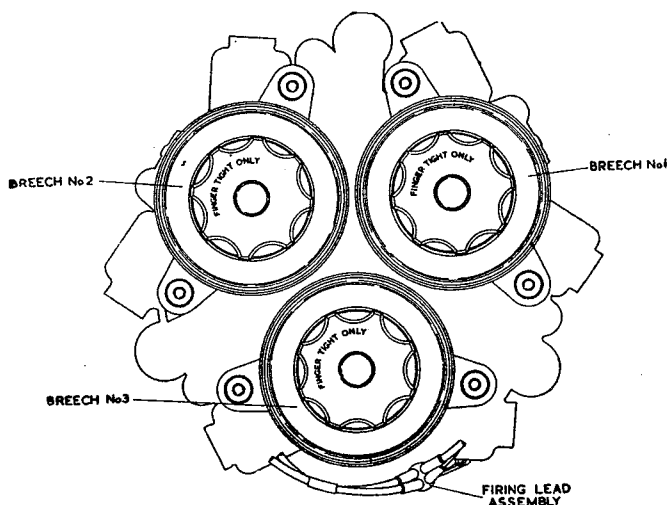

Fig. 3 Numbering of breeches for assembly purposes
- (4) When assembled correctly, the view from the breech end of the assembly should be as shown in fig. 3.